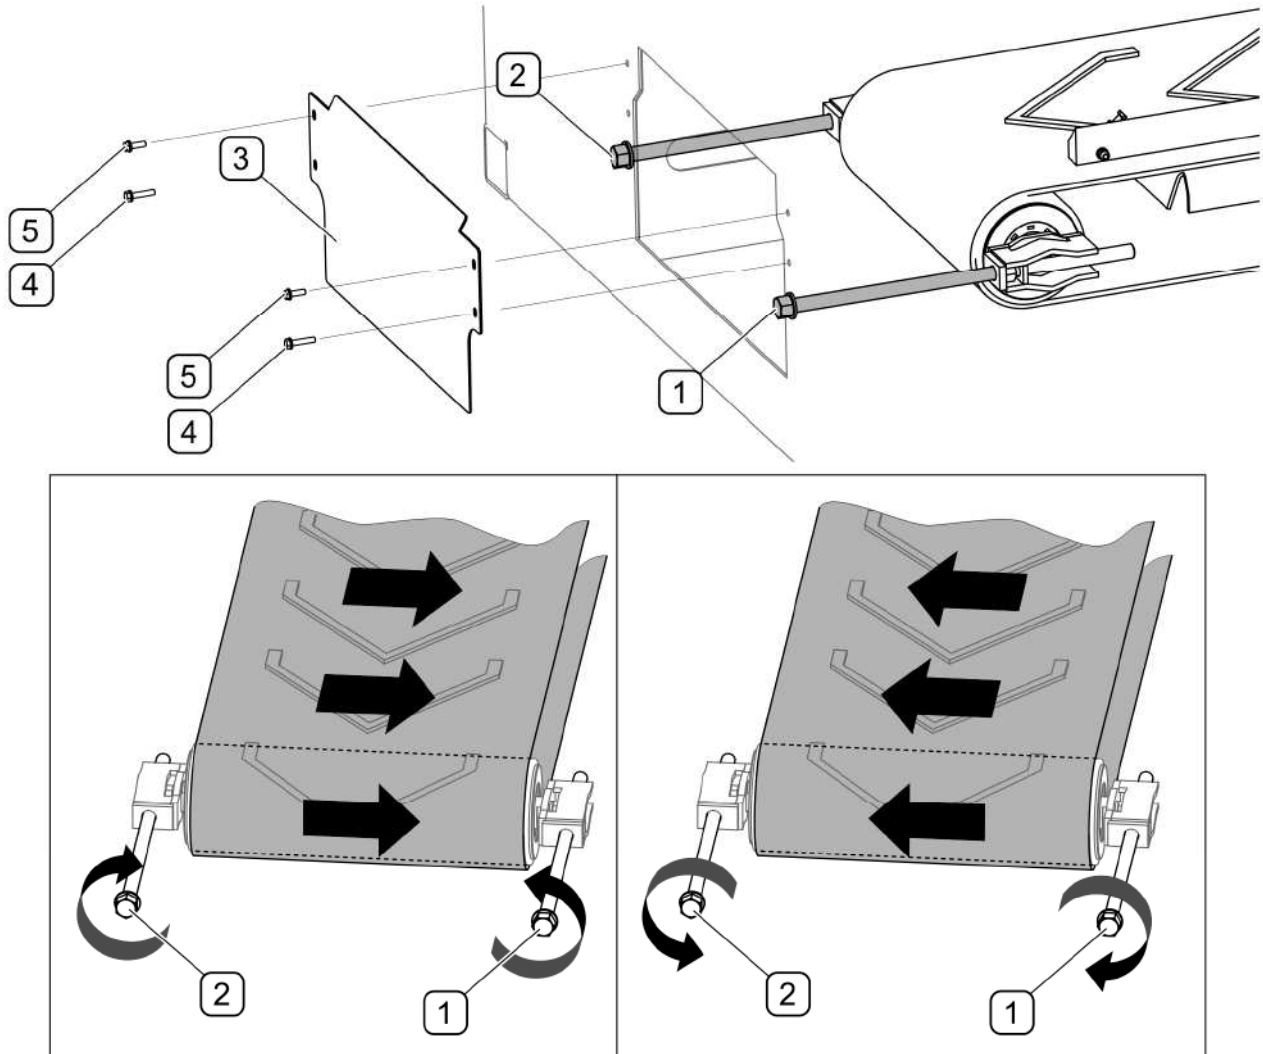

FIG. 5.5 Adjustment of tightening roller
Before starting conveyor belt adjustment (FIG. 5.5), unscrew bolts (4) and (5) and remove cover (3). Start the carrying vehicle's external hydraulic circuit that supplies the machine. Activate "Unloading" function in "Counters" menu on the control panel. A detailed description can be found in section 4.9 UNLOADING.
Conveyor belt is adjusted during conveyor operation by means of tensioning bolts (1) and (2) located on the front wall of the tank (FIG. 5.5). Depending on shifting of conveyor belt (FIG. 5.5), choose proper rotation direction of tensioning bolts (1) and (2). During the adjustment, make one turn of each bolt and wait for some time to see the effect of the adjustment. Repeat the activity until moving conveyor belt is positioned in the middle of the conveyor roller.
Conveyor belt can be tightened when the conveyor drive is switched off. Conveyor belt is tightened by means of bolts (1) and (2) located on the front wall of the tank (FIG. 5.5). Turn both bolts (1) and (2) clockwise using force of about 25 Nm. To avoid shifting the belt sideways to the edge of the roller, turn both bolts by the same number of rotations.